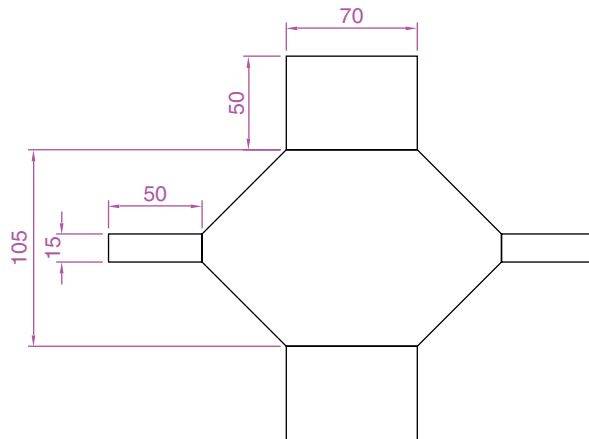

Fig. 3.39 Exercise 8
8. Fig. 3.39 was constructed using only the Rectangle tool. Make an exact copy of the drawing using only the Rectangle tool.